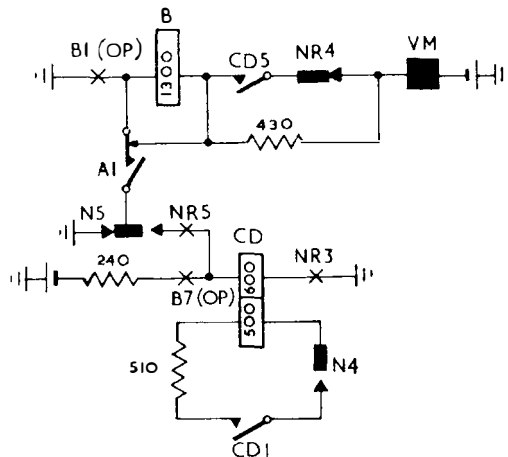

FIG. 14. SIMPLIFIED VERTICAL PULSING CIRCUIT.
Relay CD is operated on its 600 ohm winding and a 510 ohm shunt path around the 500 ohm winding is prepared at CD1. Contact CD5 prepares the vertical magnet pulsing circuit by short circuiting the 430 ohm resistor in series with relay B. Fig. 14 shows a simplified version of the vertical pulsing circuit. When pulses are received, the A relay releases at each break and re-operates each time the loop circuit is remade. Each time the A relay releases, contact A1 short circuits relay B and operates the vertical magnet from earth at B1. When the A relay re-operates, the short circuit is removed from relay B which is energised again in series with the vertical magnet. The additional resistance of relay B causes the vertical magnet to release each time relay B is connected in series. At the first vertical step the vertical off normal (N) springs place a shunt across the 500 ohm winding of relay CD (N4) and connect an intermittent short circuiting earth via A1 operated for the 600 ohm winding (N5). After the first vertical step, the 500 ohm winding of CD is shunted for the remainder of the pulse train and the 600 ohm winding is short circuited each time relay A operates. Relays B and CD both hold during vertical stepping.